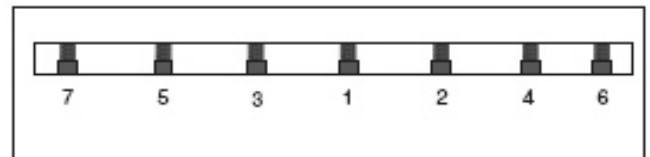

Figure 42. Gib tightening sequence.
8. Rotate the cutterhead to the first knife you started with. Slightly tighten all the gib bolts by following the tightening sequence shown in **Figure 42**. Repeat this step on the rest of the knives, then final tighten each gib bolt.